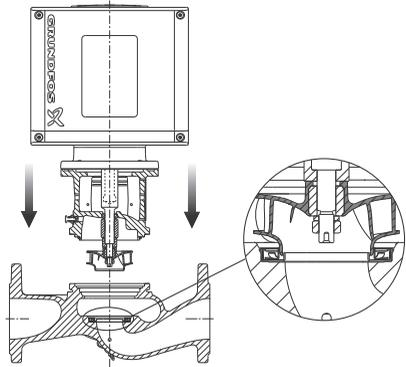

Fig. 10 Lowering of pump head
2. Gently lower the pump head with rotor shaft and impeller into the pump housing. See fig. 10.